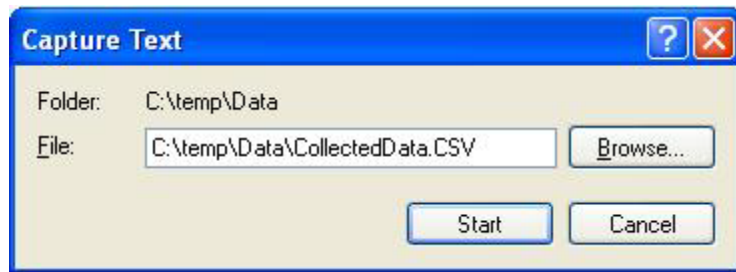

Figure 31 - Specify Data Capture File
- 6) Enter the path and name of the file to be created, either directly, or with the Browse button, then click on the Start button (see Figure 31).